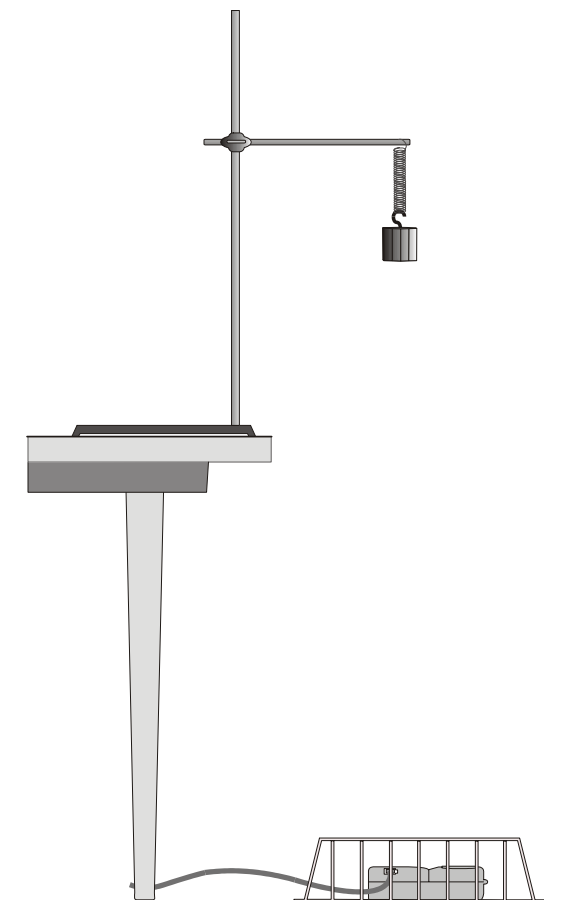

Figure 1
1. Obtain the mass of the spring and record in the Data Table. Mount the 200 g mass (include the mass of the mass hanger if used) and spring as shown in Figure 1. Connect the Motion Detector to the DIG/SONIC 1 channel of the interface. Position the Motion Detector directly below the hanging mass, taking care that no extraneous objects could send echoes back to the detector. Protect the Motion Detector by placing a wire basket over the detector. The mass should be about 50 cm above the detector when it is at rest. Using amplitudes of 10 cm or less will then keep the mass outside of the 40 cm minimum distance of the Motion Detector. If the observed graphical patterns contain considerable irregularities, further adjustments might be required in the position of the spring and hanging mass to avoid extraneous sonic signal reflections to the Motion Detector from such as a table edge or perhaps a person is too close to the sonic signal pattern.